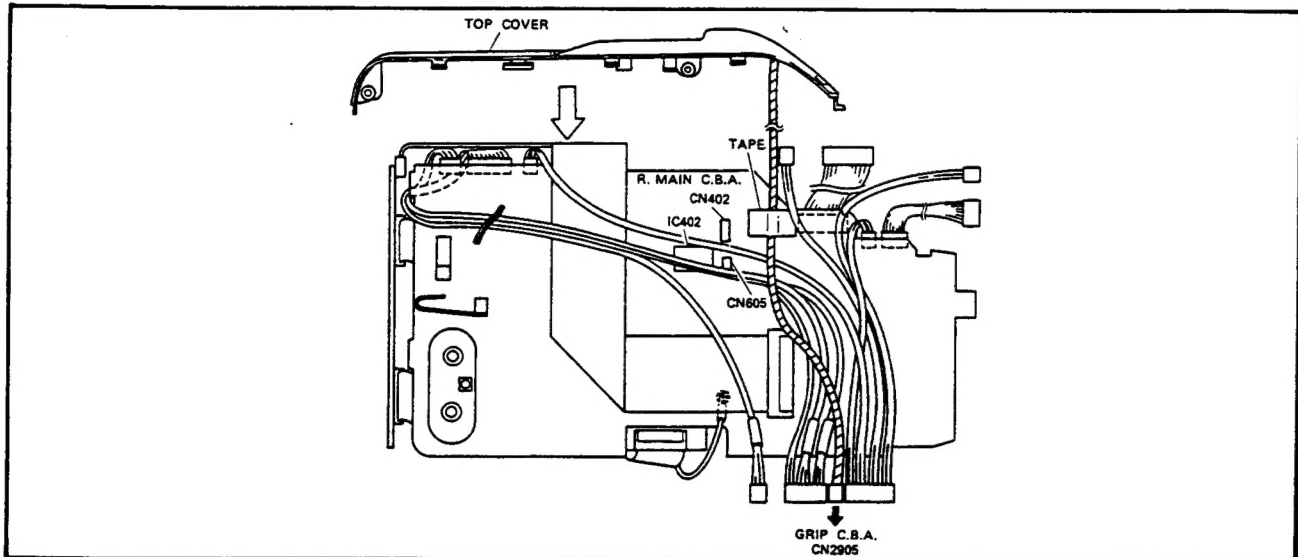

Fig. II-1
1. Make a wiring of code (Pin 2) from the top cover as shown in the Fig. II-1.